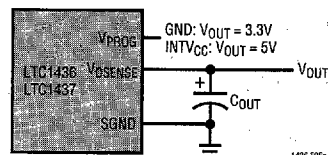
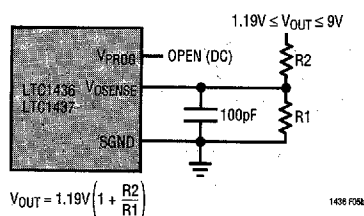

Figure 5a. LTC1436/LTC1437 Fixed Output Applications
Figure 5b. LTC1436/LTC1437 Adjustable Applications
The LTC1436/LTC1437 family also has remote output voltage sense capability. The top of an internal resistive divider is connected to  $V_{SENSE}$ . For fixed 3.3V and 5V output voltage applications the  $V_{SENSE}$  pin is connected to the output voltage as shown in Figure 5a. When using an external resistor divider, the  $V_{PROG}$  pin is left open (DC) and the  $V_{SENSE}$  pin is connected to the feedback resistors as shown in Figure 5b.